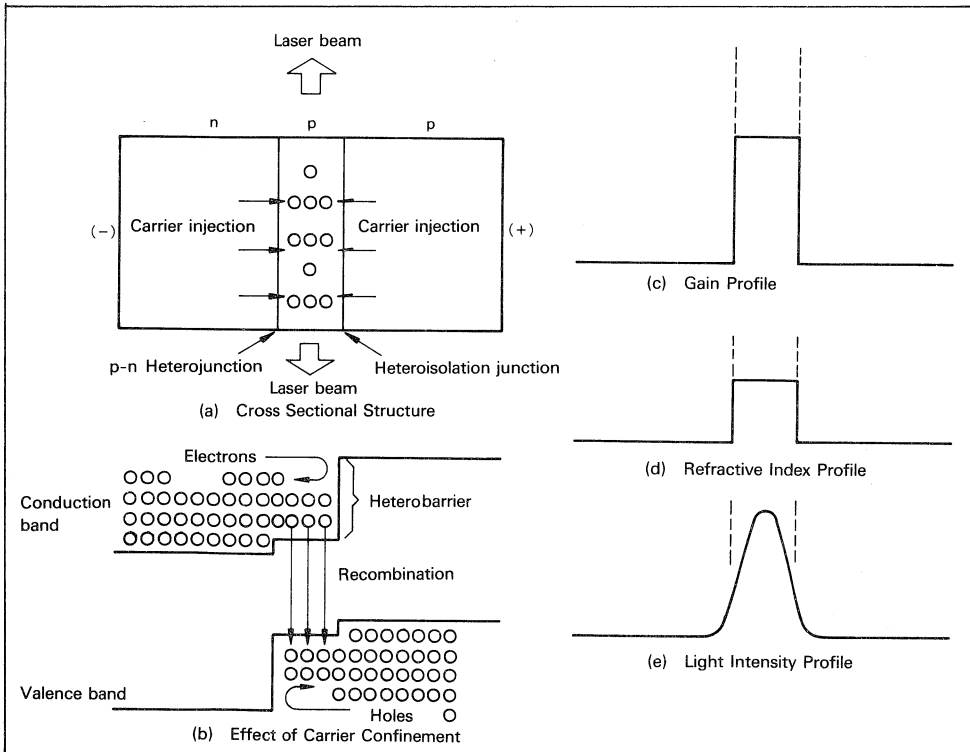

Figure II-1. Operation Principles of Double-heterojunction LD
The p-type active layer is processed first in which stimulated emission enforces optical amplification (Fig. II-1 (a)). The p-n junction is made here to inject minority carriers (the p-n heterojunction). With forward current applied to the junction, electrons in n-type region are injected into p-type region. With a p-type semiconductor of wide band gap on the other side of p-n junction (heteroisolation junction), the injected carriers are much confined within the p-type active layer. This carrier confinement makes population inversion easily and the light emission intensity is then increased.
is applied here, the heterobarrier confines carriers within the 0.05 to 0.2 μm active layer, carrier population is inverted and the gain increases. The refractive index of GaAs is higher by some percents than that of $\text{Ga}_{1-x}\text{Al}_x\text{As}$, which confines the generated light within the GaAs active layer. The light penetrating into Al_xAs layer is not absorbed because of its wide band gap. So laser oscillates effectively there (Fig. II-1). The thinner GaAs layer can do with less threshold current density for laser oscillation. At present, the threshold current density of as low as 1 to 2 kA/cm^2 is achieved, which realizes the continuous oscillation (CW) stably at room temperature.